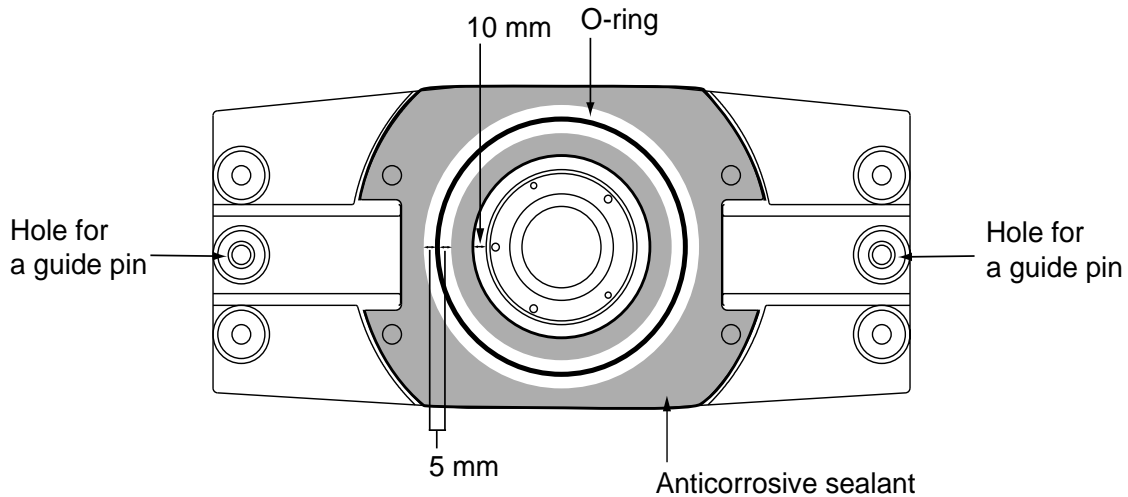

Figure 1-2 Coating the waveguide flange with anticorrosive sealant
- 3) Coat the waveguide flange with anticorrosive sealant as shown in Figure 1-2.